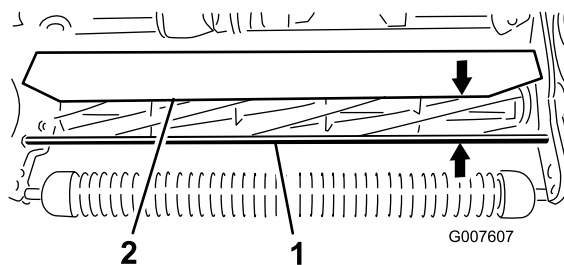

Figure 58
1. Measure the distance from the top of the front support rod to the front lip of the shield at each end of the cutting unit (Figure 58).